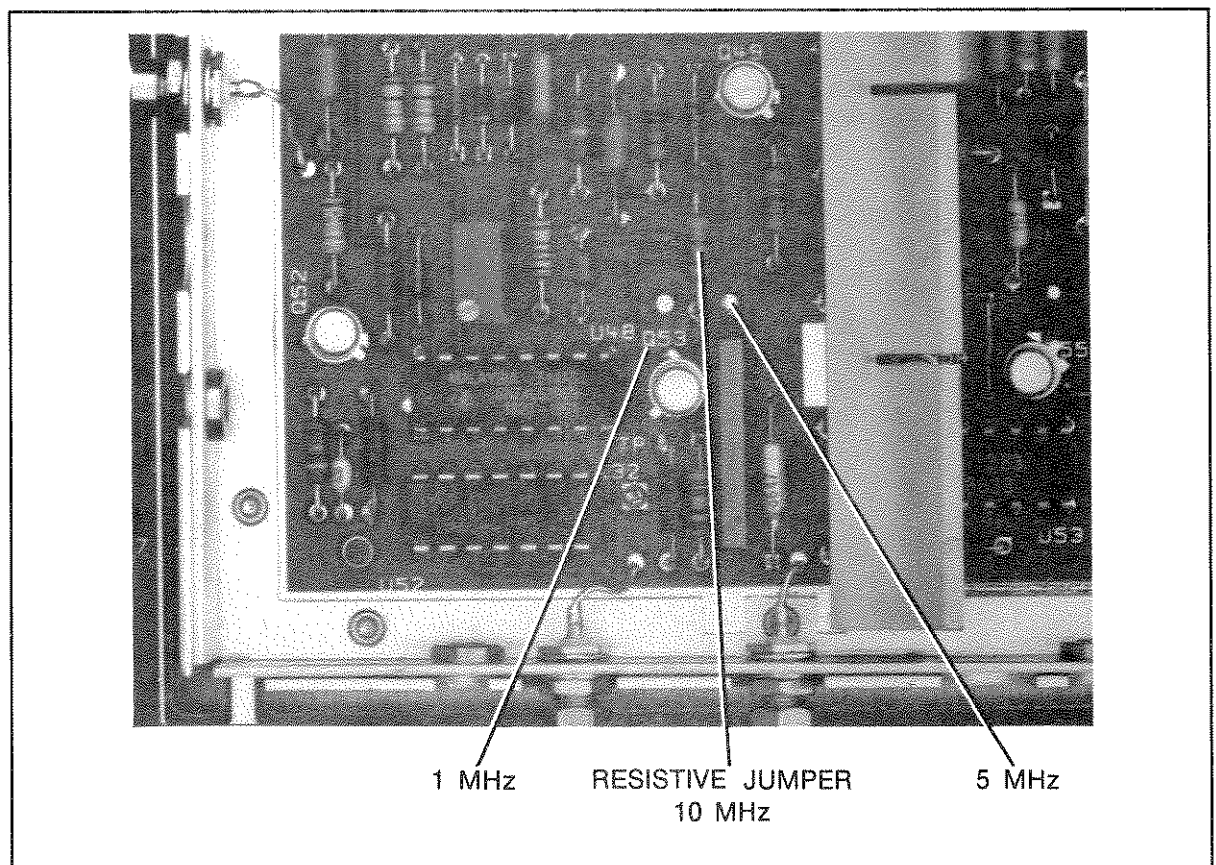

Figure 2-2. Time Base Jumper Location
- b. Remove the top cover of the Low Frequency Loop 50 MHz Reference Oscillator by removing eight screws on the top cover's four sides. The 50 MHz Reference Oscillator's top cover is located on the Low Frequency Loop Assembly — A3 to the rear of the Signal Generator. The top cover lifts off exposing the time base jumper (see Figure 2-2).